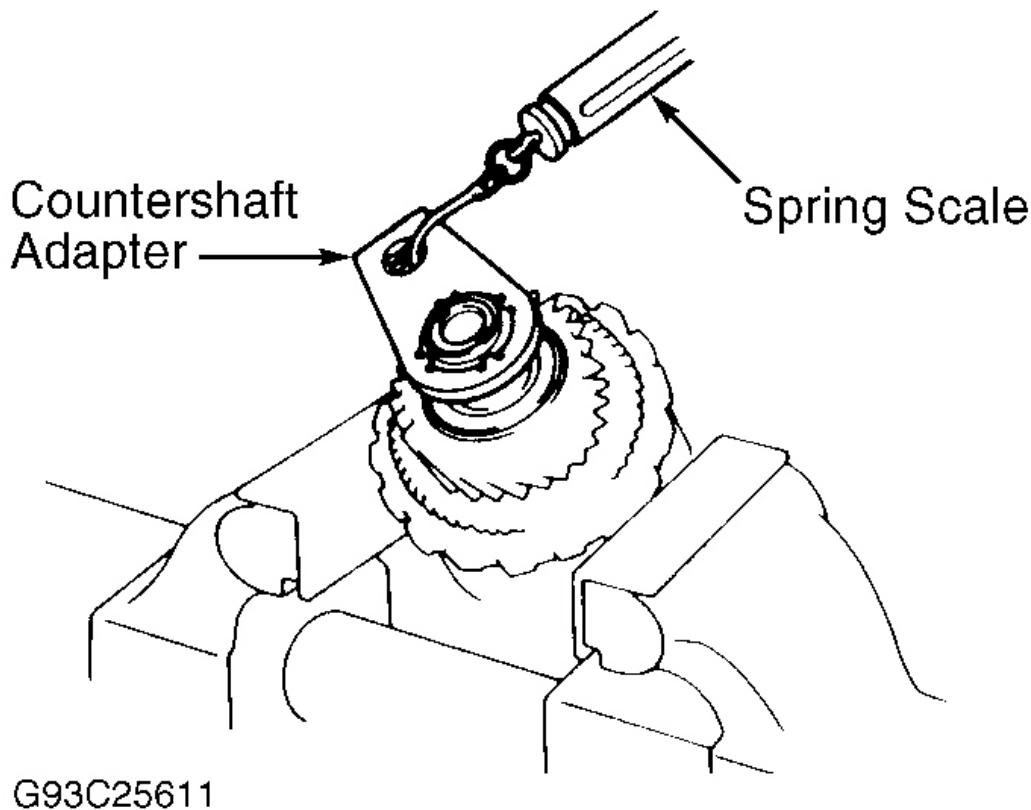

Fig. 46: Measuring Countershaft Torque
5. Using Countershaft Adapter (09351-32170) and a spring scale, measure starting torque of countershaft. Before measuring starting torque, turn countershaft firmly to seat bearing. Starting torque should be 2.6-4.4 lbs. (1.2-2.0 kg). Replace spacer if starting torque exceeds specification. Recheck starting torque. See **Fig. 46**.